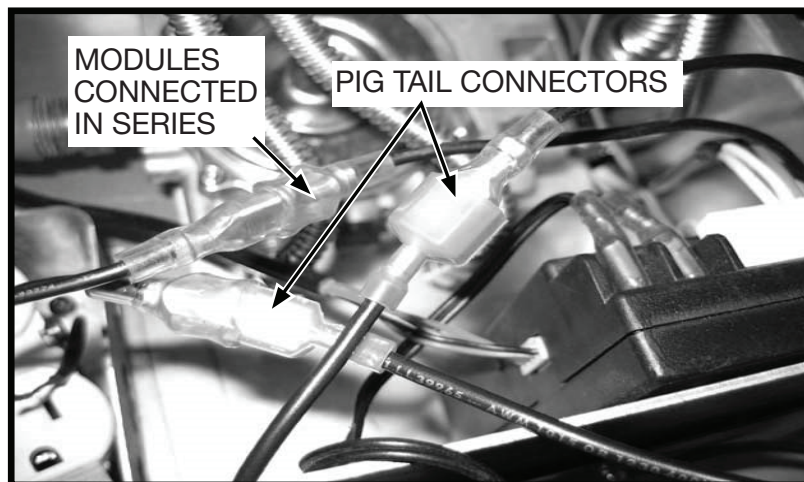

Figure 9: Connecting pig tails.
5. Connect the remaining male and female connectors from the black loops on each module to the pig tail connections supplied (Figure 9).